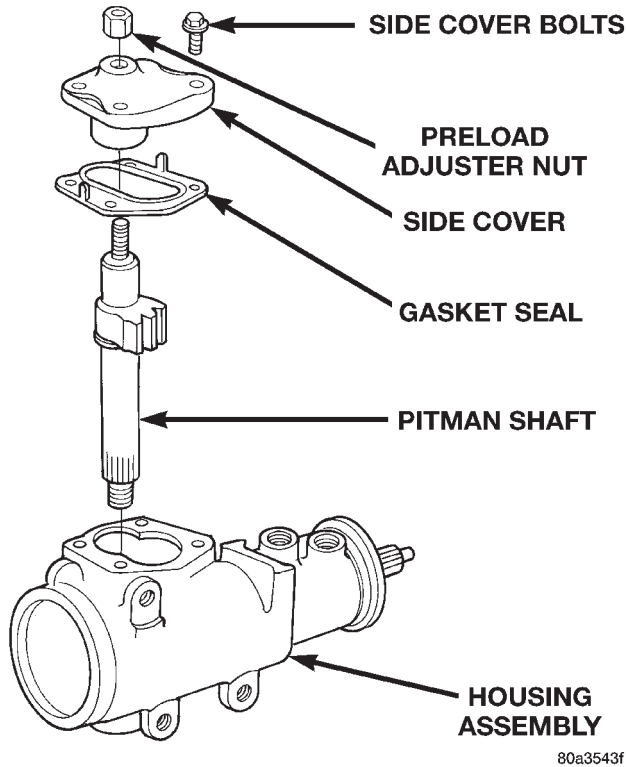

Fig. 8 Side Cover and Pitman Shaft
(1) Clean exposed end of pitman shaft and housing with a wire brush.
(2) Remove preload adjuster nut (Fig. 8).
(3) Rotate stub shaft to center the gear.
(4) Remove side cover bolts and remove side cover, gasket and pitman shaft as an assembly (Fig. 8).
(5) Remove pitman shaft from the side cover.